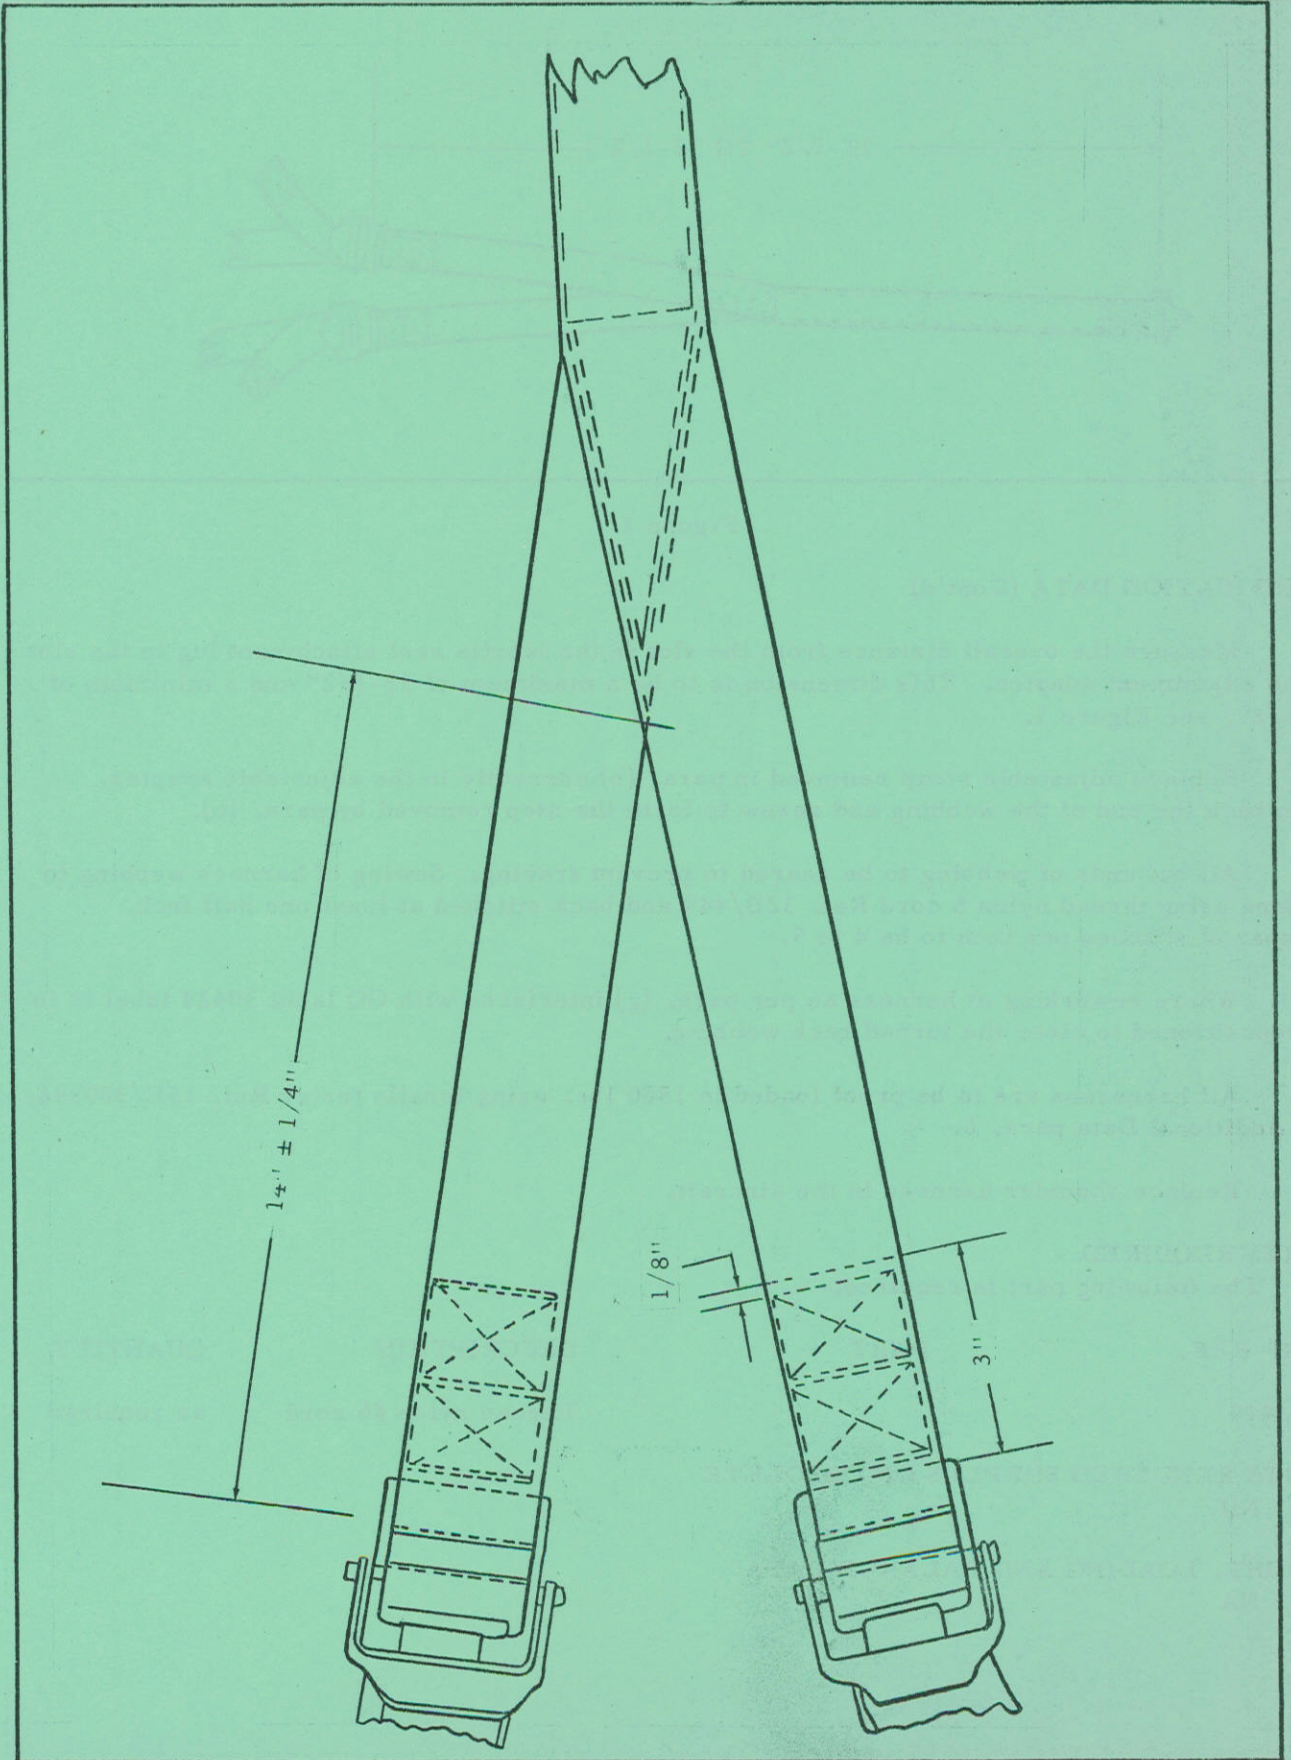

Figure 2
- (g) Pass the ends of the webbing cut as above through the adjustment adapter slots. Before sewing measure from the apex of the triangular sewing to the slot of the adjustment adapter. This distance must be 14" plus or minus 1/4". Any excess webbing not required to complete a three inch sewing pattern may be trimmed off. Sew webbing to adjustment adapter as per Figure 2.